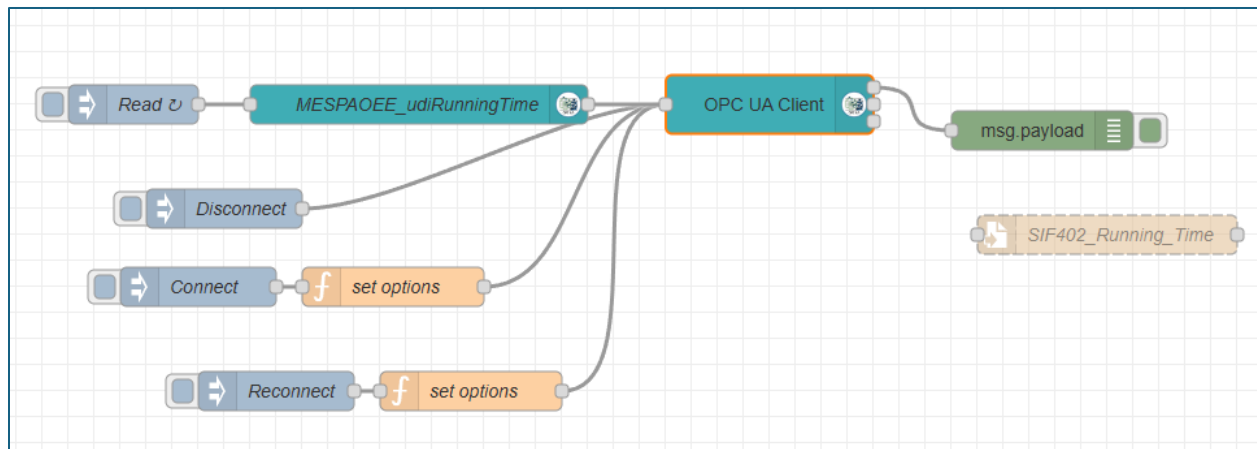

Figure 6 - Node-red flow implemented to access a PLC signal via OPC UA
- The topology implemented is shown in Figure 6.